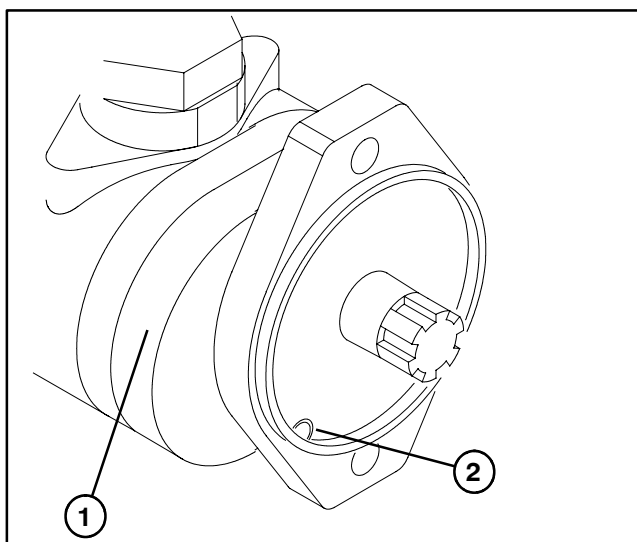

Figure 106
5. Position pulley to taper lock bushing and align non-threaded holes of pulley with threaded holes of bushing. Loosely install three (3) cap screws with lock washers to bushing and pulley.
**Note:** If installing a new gear pump to the piston pump, make sure to remove the plug from the suction port of the gear pump (Fig. 106). The gear pump suction fitting must be on the same side as the trunnion of the piston pump.